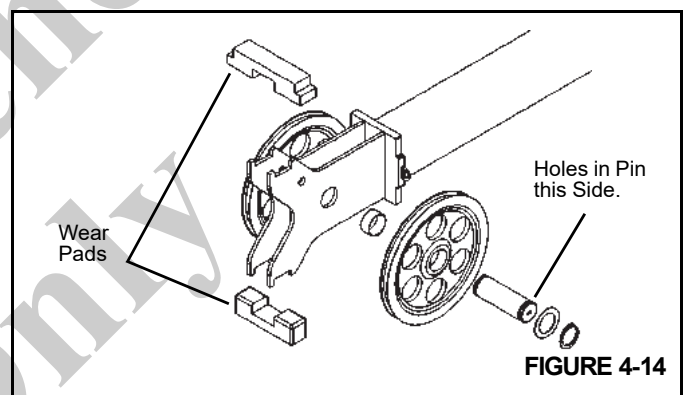

FIGURE 4-14
1. Install the sheave wheels on the telescope cylinder. The holes in the end of the pin must be located as shown in (Figure 4-14).
NOTE: Ensure the top wear pads do not fall off during cylinder installation (Figure 4-14).